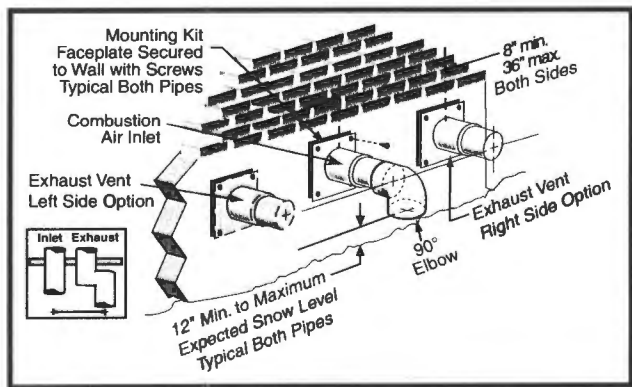
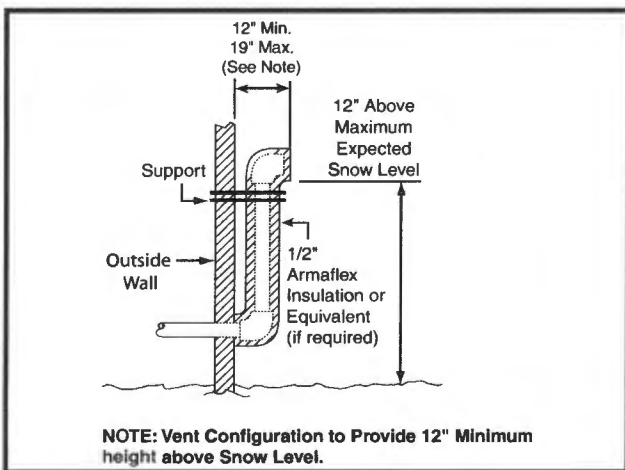

Figure 6. Inlet and Exhaust Pipe Clearances
Figure 8. Alternate Horizontal Vent Installation
- If a Direct Vent (2-pipe) system is used, the combustion air intake and the vent exhaust must be located in the same atmospheric pressure zone. This means both pipes must exit the building through the same portion of exterior wall or roof as shown in Figures 6 - 9 (pages 12 & 13) and Figure 32 (page 38).
Vent and combustion air intake terminations shall be installed as depicted in Figures 6 & 7 (page 13) and in accordance with these instructions:
- When the vent pipe must exit an exterior wall close to the grade or expected snow level where it is not possible to obtain clearances shown in Figure 6, a riser may be used as shown in Figure 8. Insulation is required to prevent freezing of this section of pipe. See Table 3.